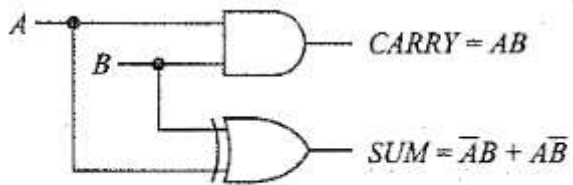

Fig. 6.3 Half-adder
- Figure 6.3 shows how to build a half-adder. The output of the exclusive-OR gate is called the *SUM*, while the output of the AND gate is the *CARRY*. The AND gate produces a high output only when both inputs are high. The OR gate produces a high output if either input, but not both, is high. Table 6.2 shows the truth table of a half-adder.